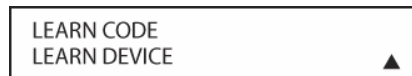

Figure 138
3. Press the **Set Button [triangle 15]**. The message in the LCD display will change to the LEARN CODE menu (**Figure 138**). The bottom line will default to the LEARN DEVICE option.